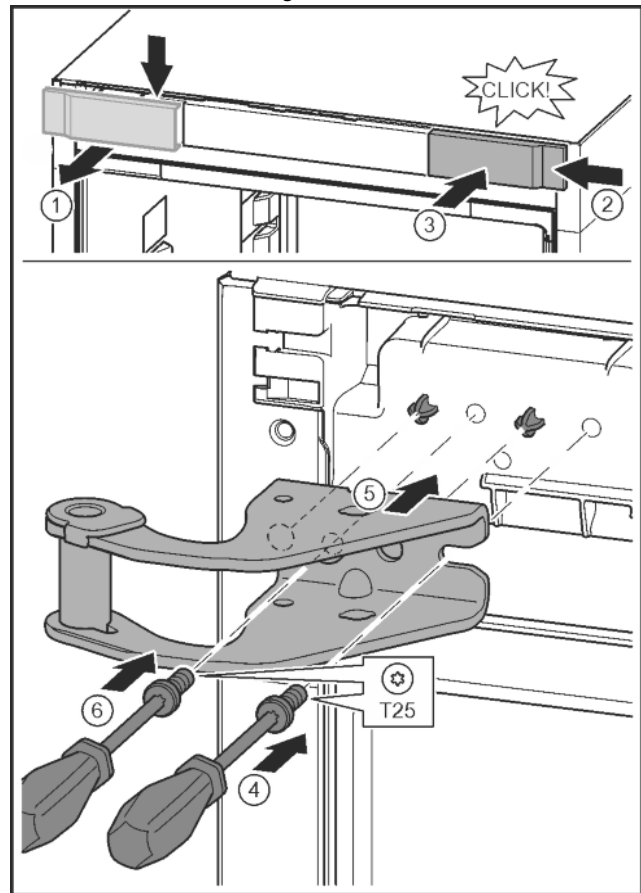

Fig. 15
- ▶ Release the cover and remove from the side. Fig. 15 (1)
- ▶ Rotate the cover 180° and clip onto the other side from the right. Fig. 15 (2)
- ▶ Click the cover into place. Fig. 15 (3)
- ▶ Position the screw with a T25 screwdriver. Fig. 15 (4)
- ▶ Position the upper bearing bracket. Fig. 15 (5)
- ▶ Tighten the screw. Fig. 15 (6)
- ▶ Insert the screw with a T25 screwdriver and tighten. Fig. 15 (6)